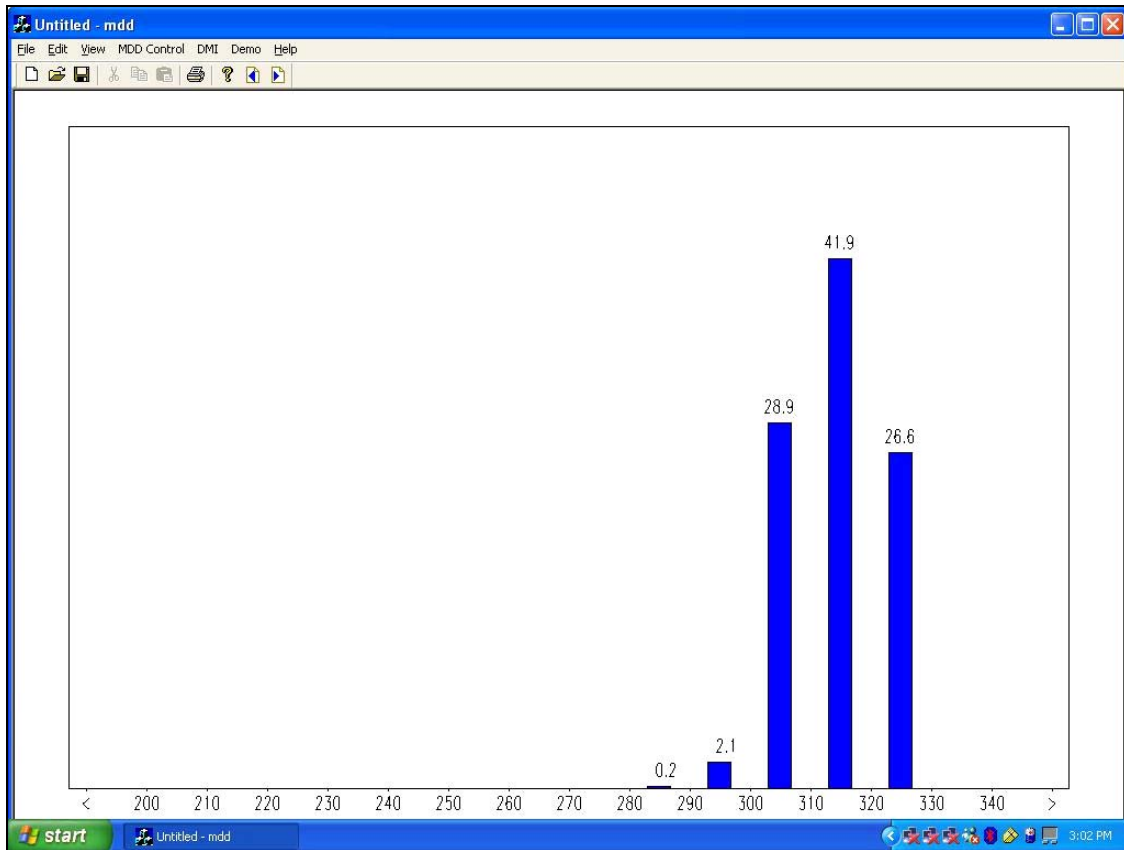

Figure 19. Bar Chart Display of Temperature Distribution.
- **Display Analysis Bar:** When checked, this feature enables the display of a narrow analysis bar at the top of the displayed thermal plot. The analysis bar changes colors according to whether measured temperatures fall within, above, or below the targets set in the Control screen (accessed under the MDD Control menu). If all the temperatures in a scan fall within the target range, the analysis bar turns green. If any temperature in the scan exceeds the maximum target temperature, the analysis bar turns black. If any temperature in the scan falls below the minimum set target temperature, the analysis bar turns blue. See Figure 19 for an example of the analysis bar function.
The BAR CHART command displays a histogram of the measured temperatures for the entire active data file as Figure 19 illustrates. The Y axis Scale setting in the Control screen determines the displayed range of the bar chart.